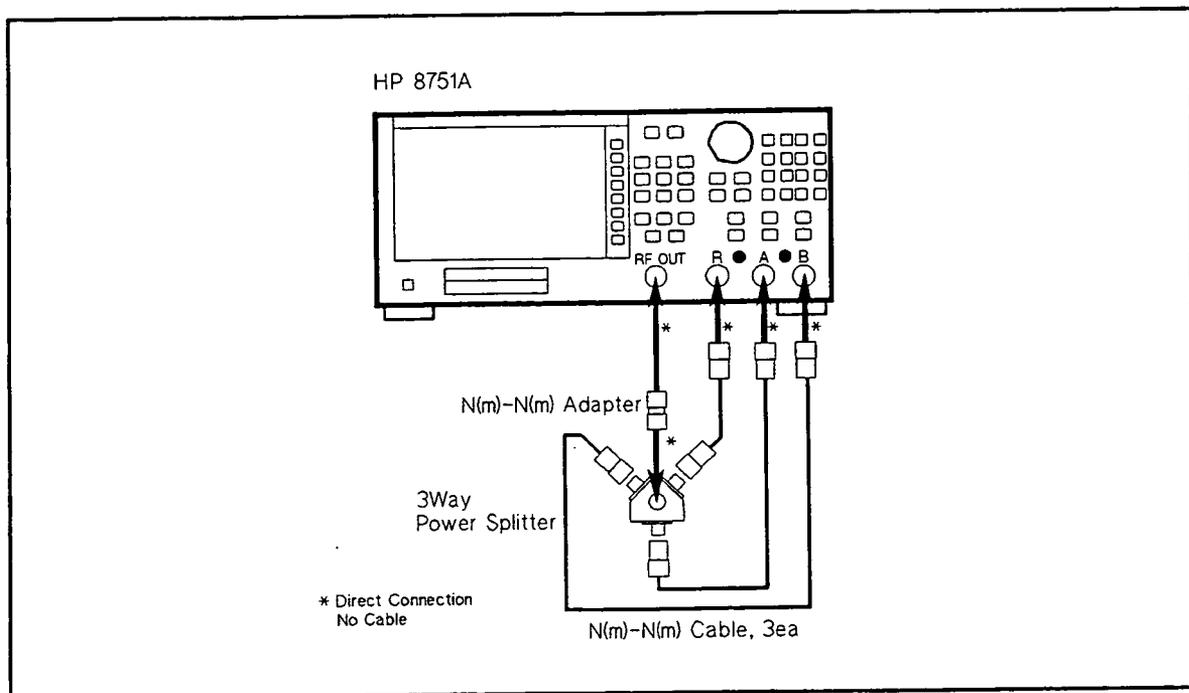

Figure 2-30. Magnitude Ratio Frequency Response Test Setup
1. Connect the equipment as shown in Figure 2-30.